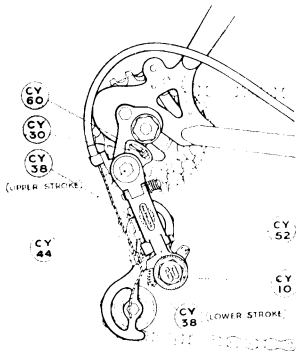

FIG. 1.
2. Line up the 9-tooth Jockey Sprocket with Top Gear Cog by means of Lower Stroke Adjusting Screw (Ref. CY. 38) Fig. 1, making sure that the Derailing Cage is parallel with the Freewheel. IT IS IMPORTANT THAT THE GEAR DOES NOT APPEAR BENT OR TWISTED.
4. Correct chain length; fit the chain into derailing cage as in Fig. 1, derail chain on to low gear and set in correct position by means of Upper Stroke Adjusting Screw, see Fig. 1; set angular position of gear by means of Stop (Ref. CY60) in elongated slot in Stop Plate (Ref. CY.30) so that the chain will give one complete link (i.e. 3 rivets) from where the chain leaves the low gear cog to where it meets the 9-tooth Jockey Sprocket. Derail chain back on to top gear cog to ensure maximum wrap round of chain on sprockets. An extra link in the chain may be required or the angular position of the gear adjusted. THIS CHECK IS IMPORTANT AS IT ENSURES THAT THE CHAIN WILL NOT JUMP OR SLIP, EVEN IF THE GEAR IS INSUFFICIENTLY TENSIONED.